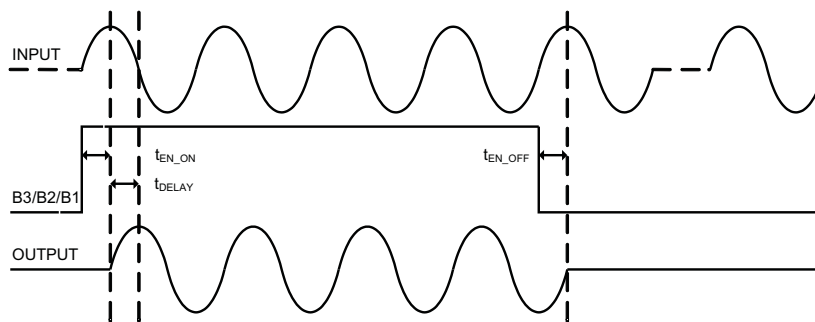

Figure 2. Timing Diagram
(1) 5MHz $1V_{\text{PP}}$, and 5.01MHz $0.5V_{\text{PP}}$ input.
(2) PSMR is defined as the ratio between carrier 5MHz and side band signals with 1KHz and 1MHz $50mV_{\text{PP}}$ Noise applied on supply pins.
(3) See the timing diagram show in Figure 2.